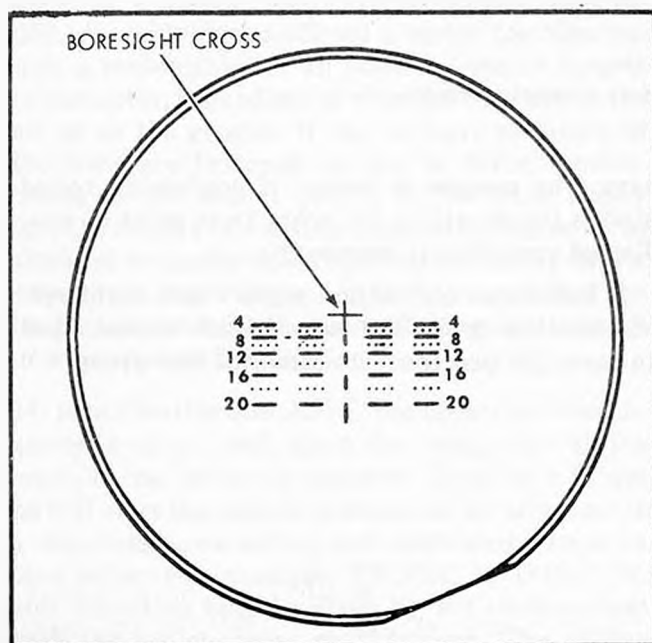
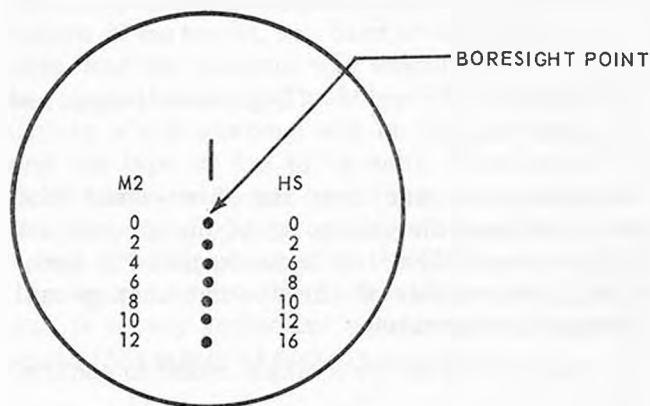

Figure 24. Telescope M120 reticle pattern.
Figure 25. Night vision sight reticle pattern.
e. Refer reticle of M120 telescope to boresight device crosshair (fig 24).
(1) Remove the night vision sight, AN/TVS-2A before adjusting the M120 telescope.
(2) Loosen M148 telescope mount azimuth and elevation boresight clamping screws.
(3) Without disturbing lay of the gun, move the reticle boresight cross to aiming point with boresight adjustment screws.
(4) Tighten clamping screws.
(5) Recheck sight pictures of the telescope and muzzle boresight device.
(6) Repeat procedure if necessary.
f. Refer reticle of night vision sight AN/TVS-2A to boresight device crosshair (fig 25).
(1) Install the AN/TVS-2A sight and place it into operation with the lens cap on.
(2) Without disturbing lay of the gun, move azimuth and elevation knobs until reticle bore sight point coincides with aiming point defined in the M120 telescope and muzzle boresight device.
(3) Recheck sight pictures.